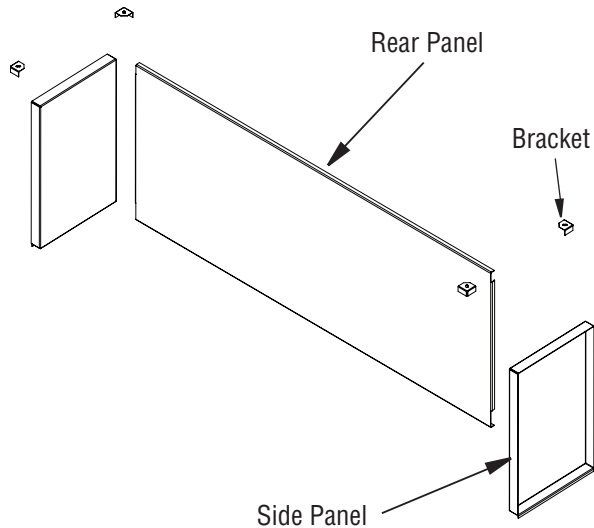

Figure 21 - Removing Rear Interior Wall for See-Thru Applications
1. Through firebox opening in the front of the fireplace, unscrew 4 corner brackets from the firebox top (See Figure 21).
4. Remove rear interior wall (see Figure 21, page 14).